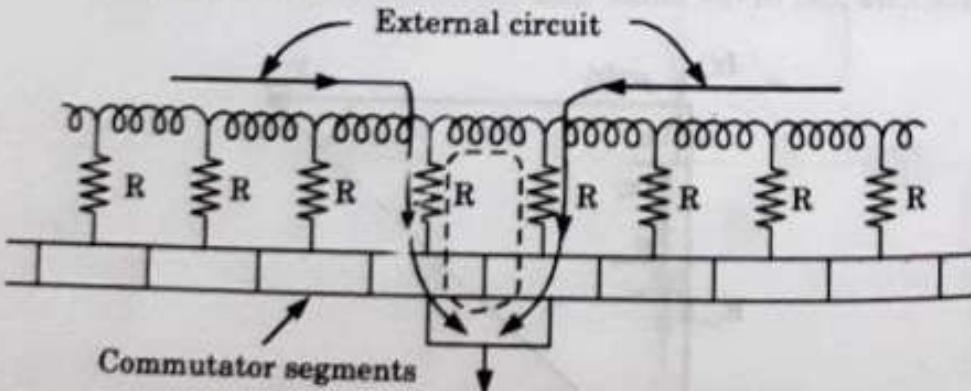

Fig. 5.7.1. Additional resistors between coils and commutator segments.
- By connecting additional resistors between the coils and the commutator segments as shown in Fig. 5.7.1.